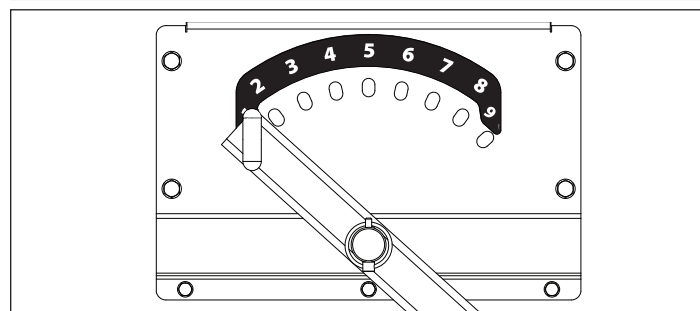

FIGURE 8: TOW BAR OFFSET POSITION GUIDE
- Position the tow bar at the desired numbered offset hole on the deck mount degree plate. **SEE FIGURE 8 AND TABLE 1**